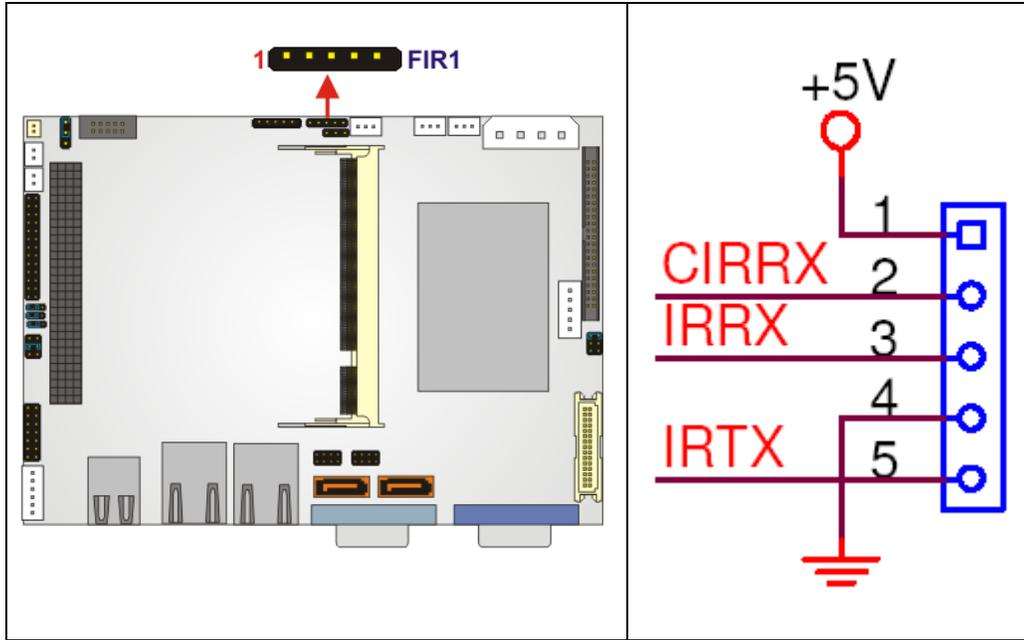

Figure 3-12: IR Connector Pinout Locations
- CN Location:** See **Figure 3-12**